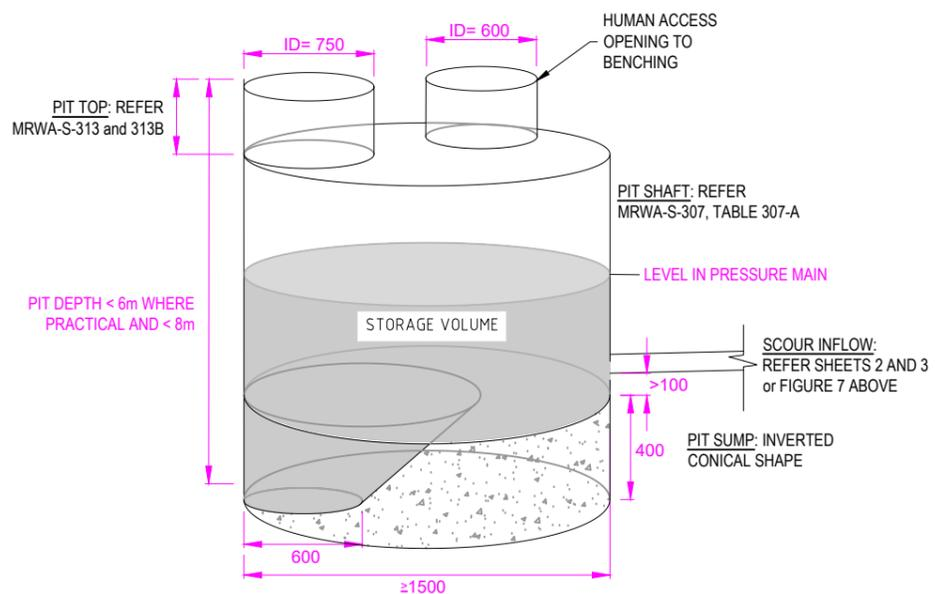

**FIGURE 7: INCORPORATION OF OFFTAKE VALVE(S) IN COLLECTION PITS**
NOT SUITABLE WHERE TWO COVERS ARE REQUIRED ie: VALVE(S) LOCATED IN THE PIT AS PER FIGURE 7